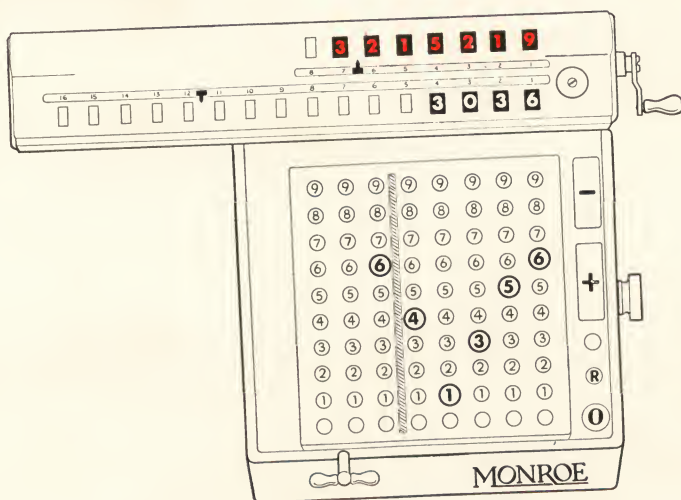

Figure 12
*Step 5*—Proceed with the division in the regular way. The final result will appear as in Figure 12.
*Step 6*—The example shown in Figure 12 illustrates the advantage of setting the upper dials decimal marker at one place more than the number of places required for the quotient. In the first upper dial or the sixth place is a 9. Therefore the quotient should be read as 3.21522 and not 3.21521, which would have been the incomplete quotient if the upper dials decimal had been set at 5 places instead of at 6.